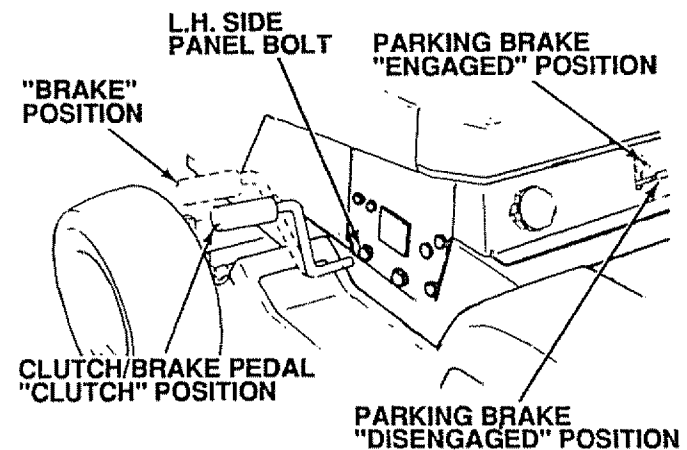

FIGURE 21
- Connect the other end of the cable to the **L.H. side panel bolt** (Fig. 21) **NOTE: KEEP AWAY FROM GAS TANK AND BATTERY.**
- L.H. side panel bolt (Fig. 21).